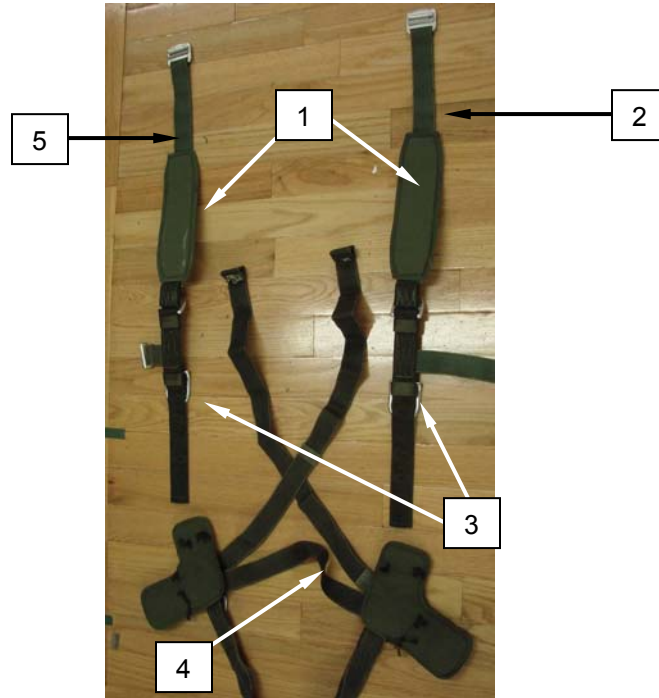

Figure 16. Lower Saddle Assembly and Right and Left Upper Main Lift Web Assemblies.
7. Lay out a new right upper main lift web assembly (Figure 16, Item 5) and left upper main lift web assembly (Figure 16, Item 2), and position so that the canopy release assemblies (CRA) are facing down and equipment D-rings (Figure 16, Item 3) are located toward the lower saddle assembly (Figure 16, Item 4) and the shoulder comfort pads (Figure 16, Item 1) are facing up. Position both upper main lift web assemblies to the outside of the lower saddle assembly (Figure 16, Item 4).